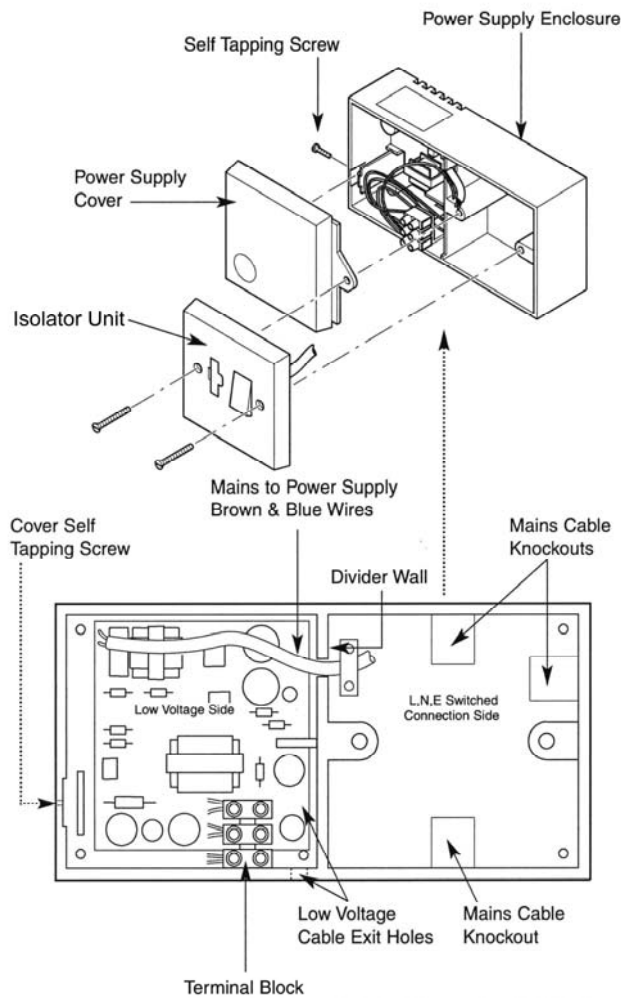

Fig.6
3. Remove isolator and power supply covers (Fig. 6).
8. Ensure that the mains wires from the S.M.P.S. run through the slot in the divider wall (Fig. 6).
9. Fit the power supply cover using the small self tapping screw through the side of the power supply enclosure (Fig. 6).